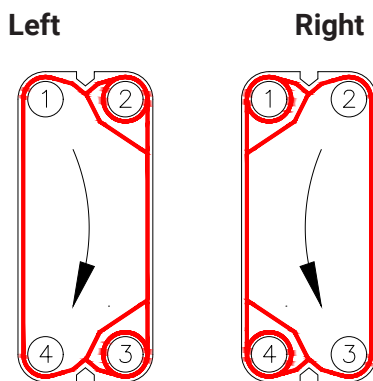

Figure 3: Left and right plate
- On the right plates, the fluid runs from connection 2 to 3, or in reverse from 3 to 2 (**figure 3**).
- On the left plates, the fluid runs from connection 1 to 4, or in reverse from 4 to 1 (**figure 3**).